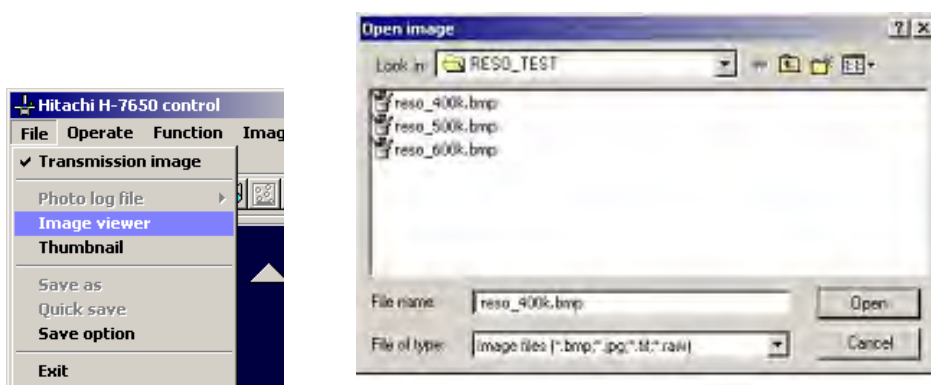

Fig. 3-21 Image viewer Menu and Open image Window
(1) Activation of EM Viewer
- (a) As shown in Fig. 3-21, select Image viewer from the File menu in the Hitachi H-7650 control window. The Open image window will appear. Select a file for image editing and click the Open button.